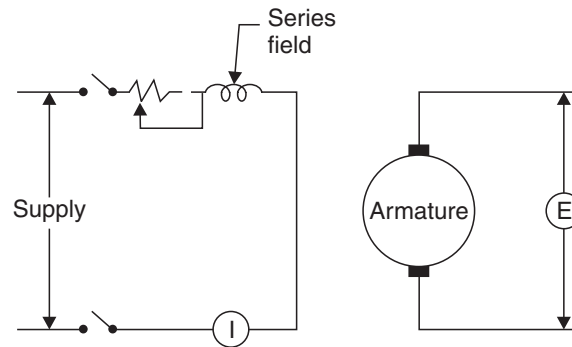
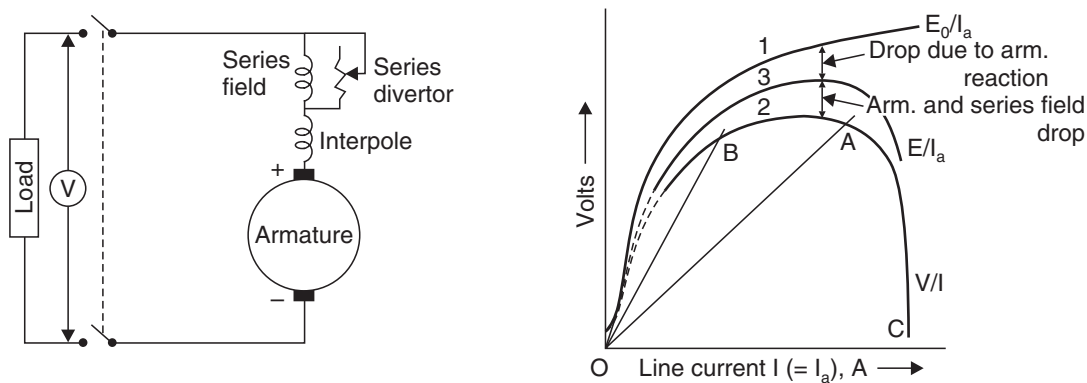

Fig. 39. Connection diagram for obtaining the saturation curve of a series generator.
Fig. 40. Circuit for loading a series generator. Fig. 41. Characteristic curves of a D.C. series generator.
The field winding of a series generator is connected in series with the armature winding as shown in Fig. 39. It consists of a *few series of heavy wire, capable of carrying the output current of the machine without overheating*. The characteristic curves of a D.C. series generator are drawn as given in next page :
- The *saturation* curve (1) may be obtained in a manner exactly similar to that already described for the shunt machine. The series-connected generator is illustrated in Fig. 39. The series connected generator illustrated in Fig. 40 must be capable of safely carrying the maximum current to be used, or about 125 per cent of rated load current. A plot of simultaneous readings of generated voltage and field current, taken at a rated speed, yields the magnetisation curve 1 of Fig. 41.
- **External Characteristic (curve 2).** To obtain the data for this curve, the machine is connected to the load as shown in Fig. 40, ammeter and voltmeter being inserted to read the load current $I (= I_a)$ and the terminal voltage V respectively. The machine is run at constant (rated) speed, a series of simultaneous readings of voltage and current is taken while the load is varied from a minimum value to perhaps 125 per cent of rated load. When these readings are plotted, using V as co-ordinate and $I_a (= I)$ as abscissa curve 2 (see Fig. 41) is obtained.